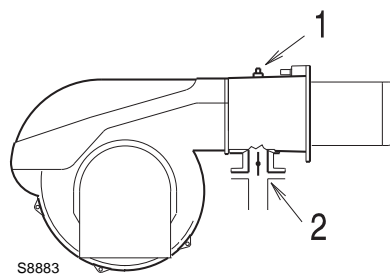

Fig. 29
Gas pressure measured at the test point 1) (Fig. 29), with:
Pressure loss at gas butterfly valve 2) (Fig. 29) with maximum opening: 90°.
Pressure loss of gas train 3) (Fig. 29) includes:
- subtract the combustion chamber pressure from the gas pressure measured at test point 1) (Fig. 29).
Gas pressure at test point 1) (Fig. 29) = 31 mbar
To calculate the required gas pressure at test point 1) (Fig. 29), set the maximum output required from the burner operation:
- Read off the pressure at test point 1) (Fig. 29) on the right in column 1.
pressure required at test point 1) (Fig. 29).